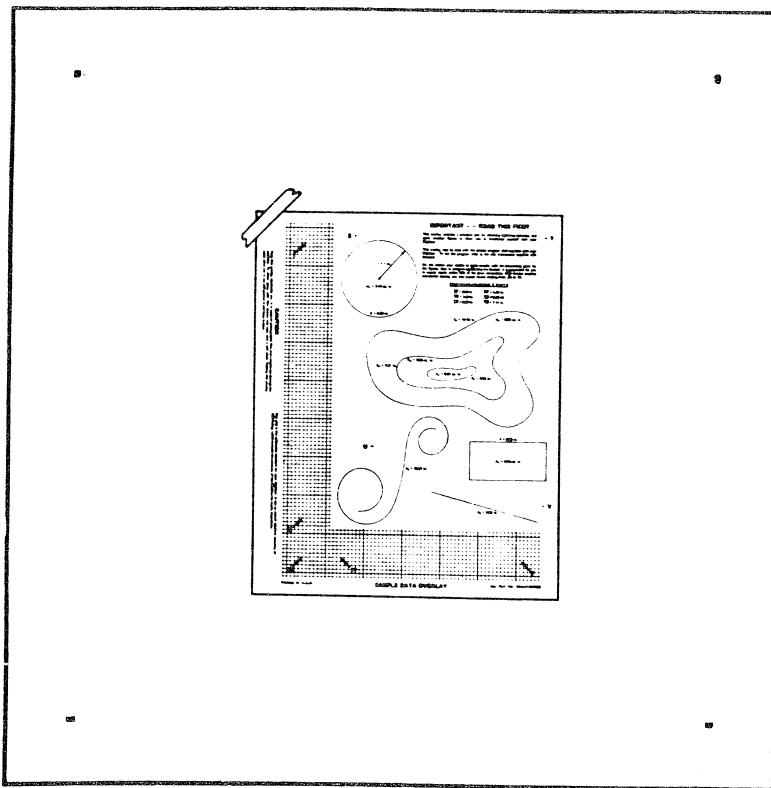

FIGURE 9.
2. Referring to Figure 9, place the Sample Data Overlay on the digitizing surface. Place a single piece of tape across the upper left-hand corner of the overlay. Prepare three other short pieces of tape for the other corners. They will be used later.